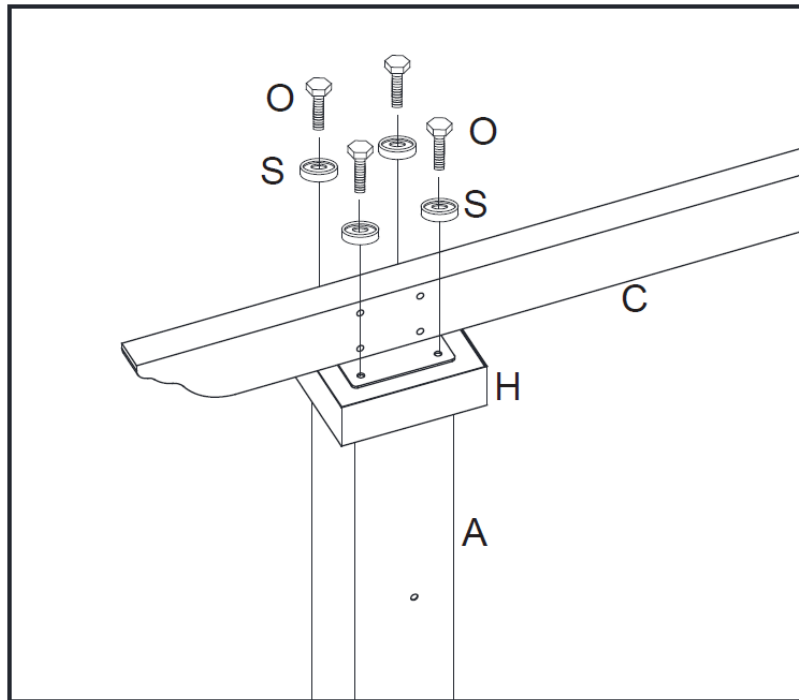

Figure 3-1
Step 3A: Attach the Assembled Outside Lintels (C) to the Corner Post Covers (H) with Bolts (O) and Plastic Washers (S). **Tighten Bolts.** See Figure 3-1.